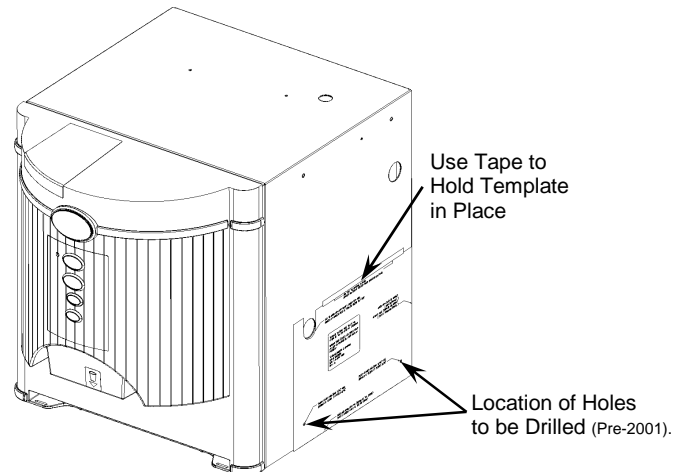

Figure 2 – Tape the template in place, then mark & drill the holes.
5. Mark the center of the holes to be drilled with a center punch (*figure 2*).